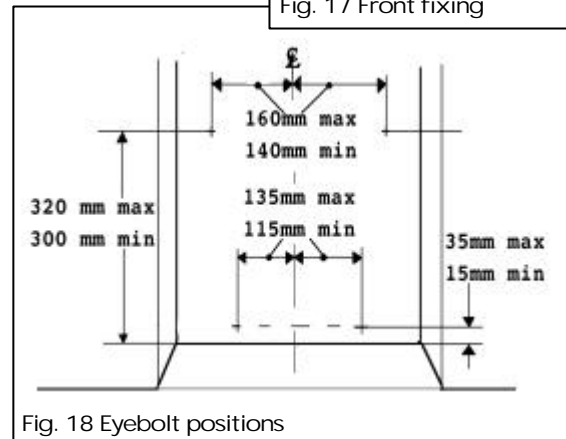

Fig. 18 Eyebolt positions
7.2.1 Drill four holes in the rear wall of the fireplace for the eyebolt plugs. The holes should be drilled within the range of positions shown in figure 18 using a no.12 masonry drill. The holes should be equidistant each side of the centre line of the fireplace to ensure that the appliance finishes centrally in the opening when tension is applied to the cables.